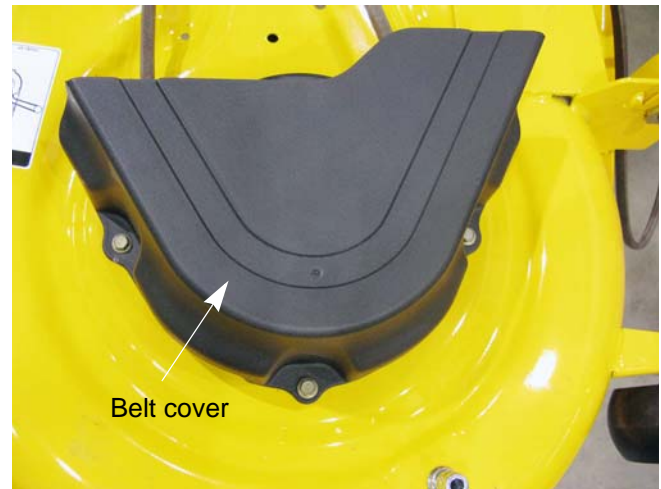

Figure 7.17
3. Remove the belt cover that is over the spindle being serviced. See Figure 7.17.